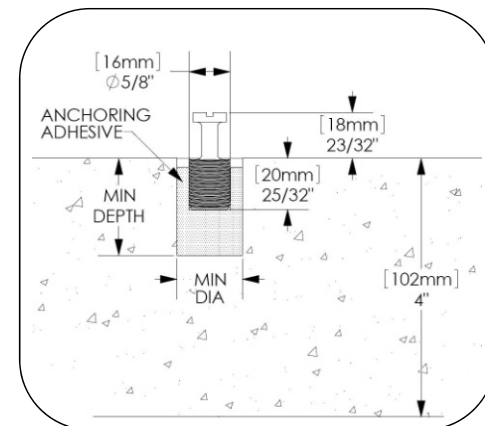

Fig. 1.5
1. Remove surface mount bolts from castings. If using chemical anchoring adhesive, install in holes as shown in Fig. 1.5. If using drop-in anchors, install according to manufacturer's recommendations and thread in surface mount bolts.